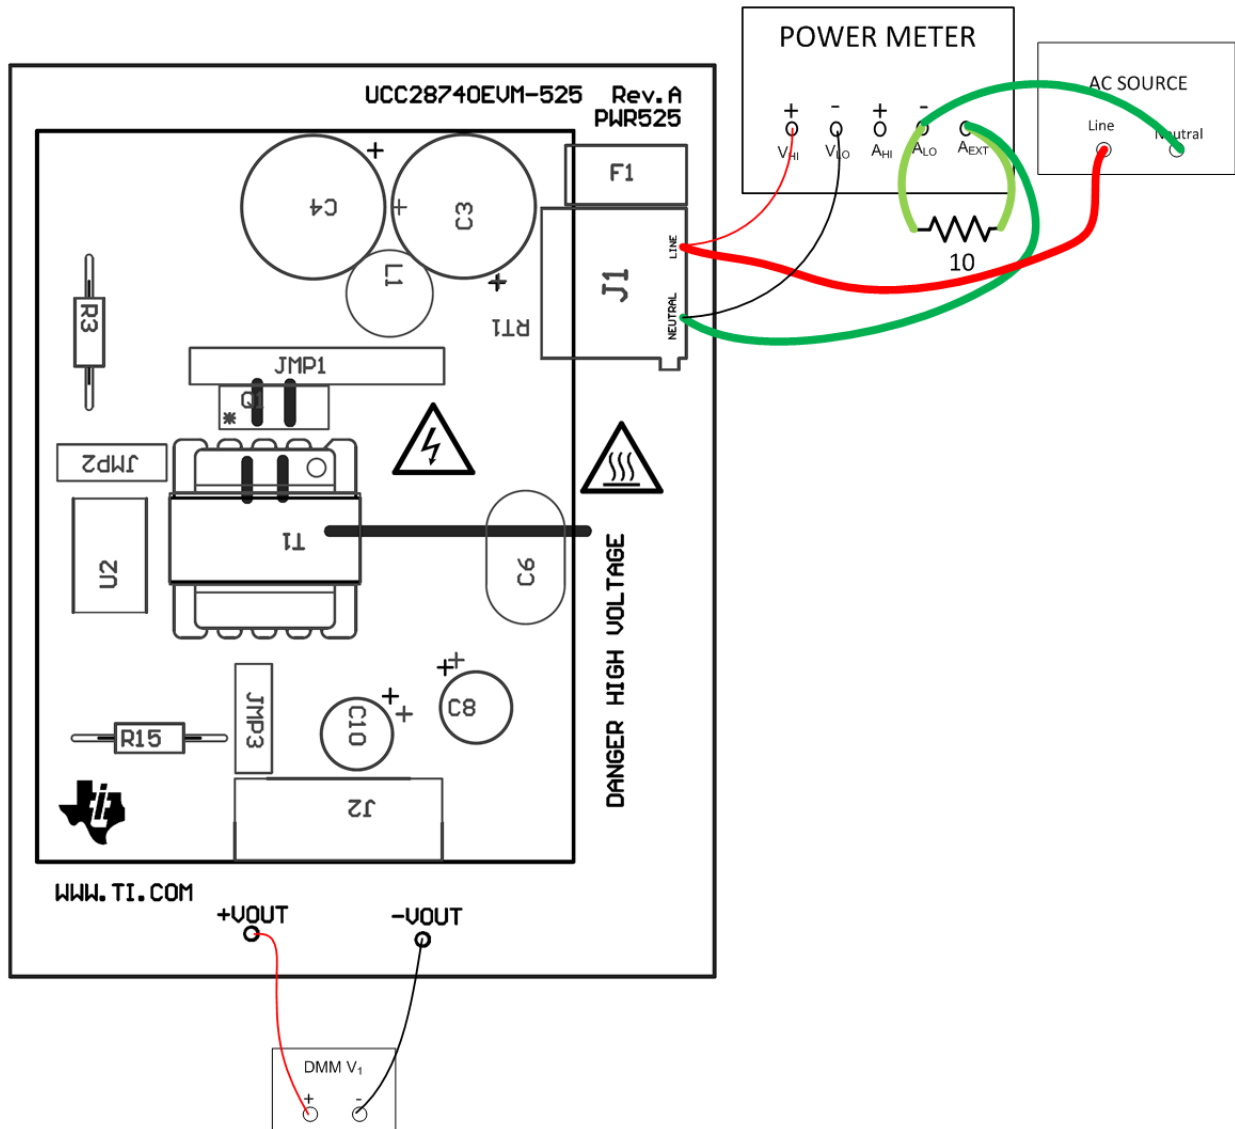
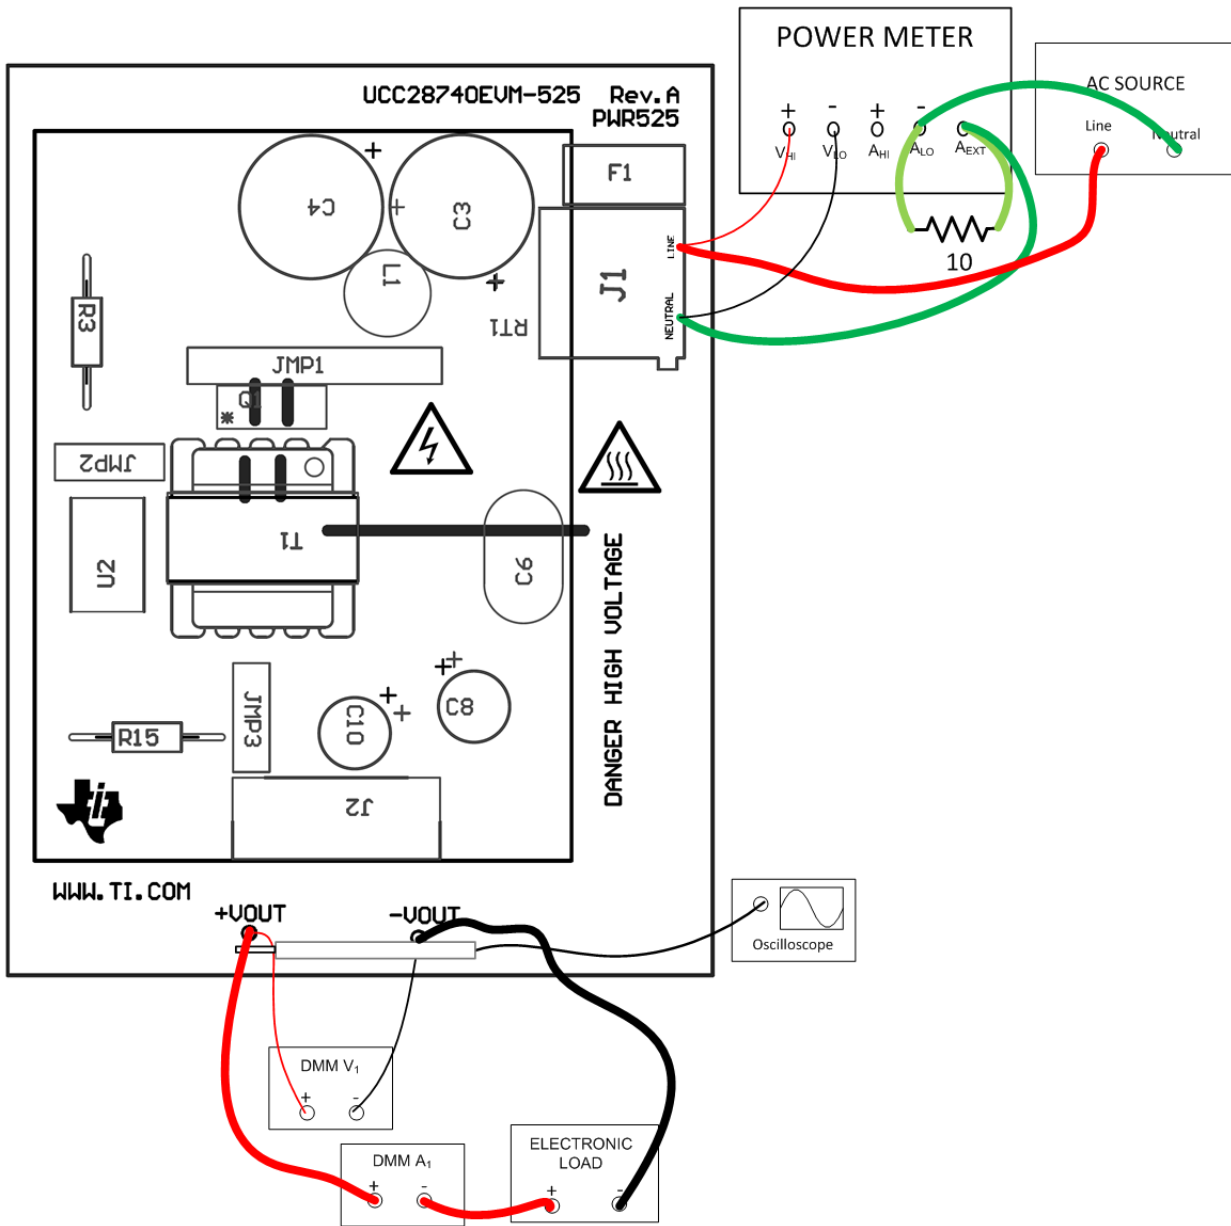

Figure 2. UCC28740EVM-525 Recommended Test Set Up For No-Load Operation
Figure 3. UCC28740EVM-525 Recommended Test Set Up With Load
Figure 2 shows the equipment set up when measuring the input power consumption during no-load operation. Note the addition of the 10 Ω shunt resistor in Figure 2. During the no-load test, the power analyzer should be set for long averaging mode in order to include several cycles of operation and an appropriate current scale factor for using the external shunt must be used. Figure 3 shows the recommended test equipment set up to evaluate the UCC28740EVM-525 with a load.
AC Voltage Source: The input source shall be an isolated variable AC source capable of supplying between 85 V_{AC} and 265 V_{AC} at no less than 20 W and connected as shown in Figures 2 and 3. For accurate efficiency calculations, a power meter should be inserted between the neutral line of the AC source and the Neutral terminal of the EVM. For highest accuracy, connect the voltage terminals of the power meter directly across the Line and Neutral terminals of the EVM.
Power Meter: A power analyzer shall be capable of measuring low input current, typically less than 10mA, and a long averaging mode, if low power standby mode input power measurements are to be taken. An example of such an analyzer is the Voltech PM100 Single Phase Power Analyzer. An external 10 Ω shunt, with a current scale factor of 10 A/V, was used at a high sample rate over an extended period of time in order to display the averaged results (refer to Figure 2).
Multimeters: For highest accuracy, V_{OUT} can be monitored by connecting a DC voltmeter, DMM V_1 , directly across the +VOUT and -VOUT terminals as shown in Figure 2 and Figure 3. A DC current meter, DMM A_1 , should be placed in series with the electronic load for accurate output current measurements.
1. Set up the EVM as shown in Figure 2 if testing at no-load, or Figure 3 if testing with a load.
1. Use the test set up shown in Figure 2.
1. For load regulation, use the test set up shown in Figure 3.
2. For line regulation, use the test set up shown in Figure 3